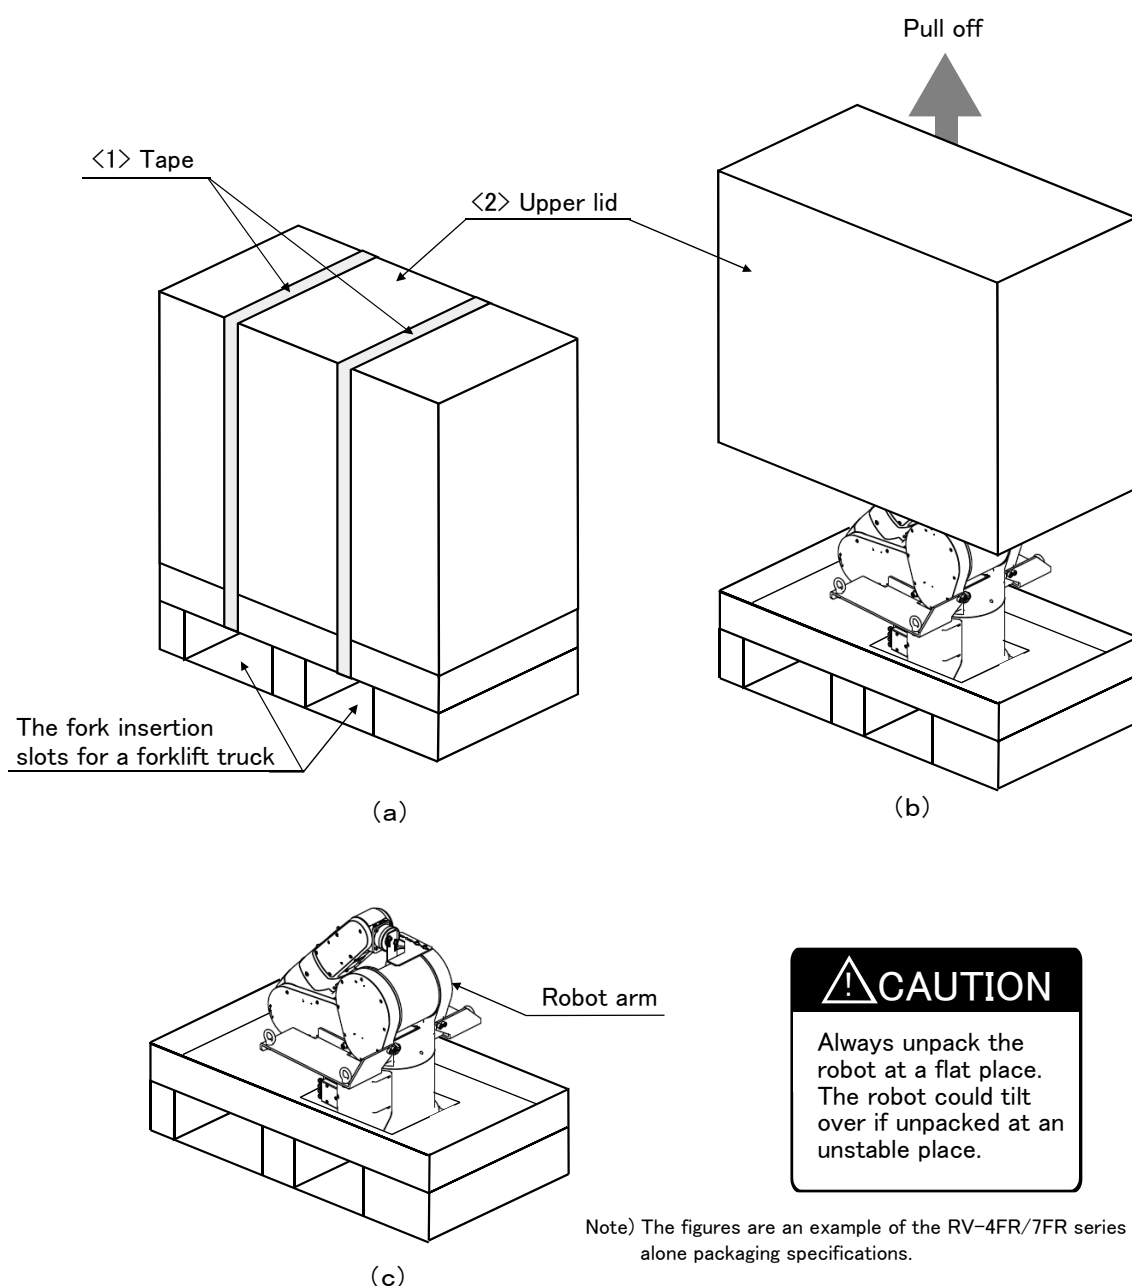

Fig.2-3 : Unpacking of the robot arm (RV-4FR/7FR series robot alone packaging specifications, RV-13FR series)
The robot is shipped from the factory in cardboard and plywood packing. Always refer to Fig. 2-3 and unpack the robot.
- 1) Using a knife, etc., slit the tape <1> fixing the upper lid <2> of the cardboard box. (Fig. 2-3 \(a\))
- 2) Pull the upper lid <2> of the cardboard box off with both hands. (Fig. 2-3 \(b\))
- 3) Remove the hexagon socket bolts <3> (four positions) connecting the sleeper and the base unit. (Fig. 2-3 \(c\))